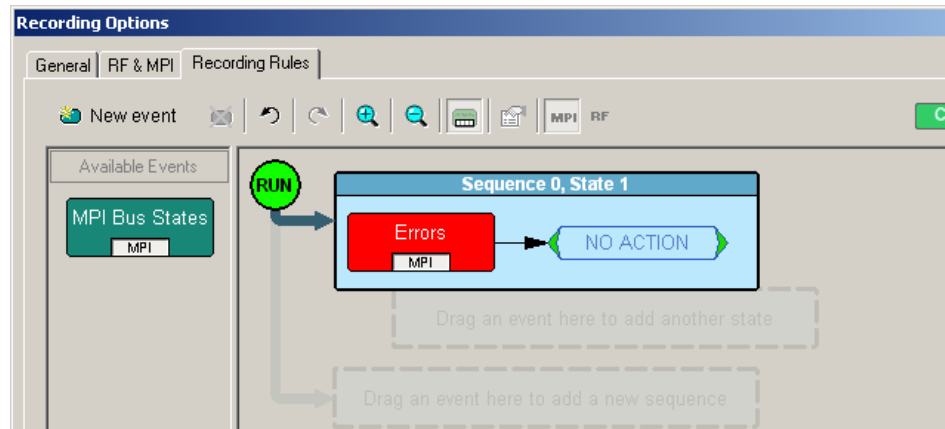

Figure 7.12 Event Button in Cell
Step 3 Drop the button in the cell (release the left mouse button). The Event button appears in the cell (Figure 7.12).
As shown in Figure 7.12, the default label for the first cell is "Sequence 0, State 1." As described later in this section, you can change that label using the Properties pop-up for that cell.
As Figure 7.12 also shows, two new cells appear under the first cell. The first of these new cells is a state cell that allows you to create another state in rule Sequence 0 (to make Sequence 0 a multi-state sequence).